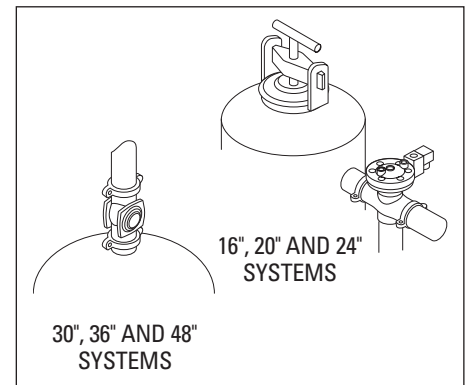

FIGURE 4
- Install one backflush valve on each tank. The 2" backflush valve is attached to the 16", 20" and 24" media filters with a 4" long threaded galvanized nipple. The 30" and 36" media filters use a 3" backflush valve attached with a victaulic coupling. A 4" backflush valve is used for 48" media filters and also attaches to the filter with a victaulic coupling. (See Figure 4)